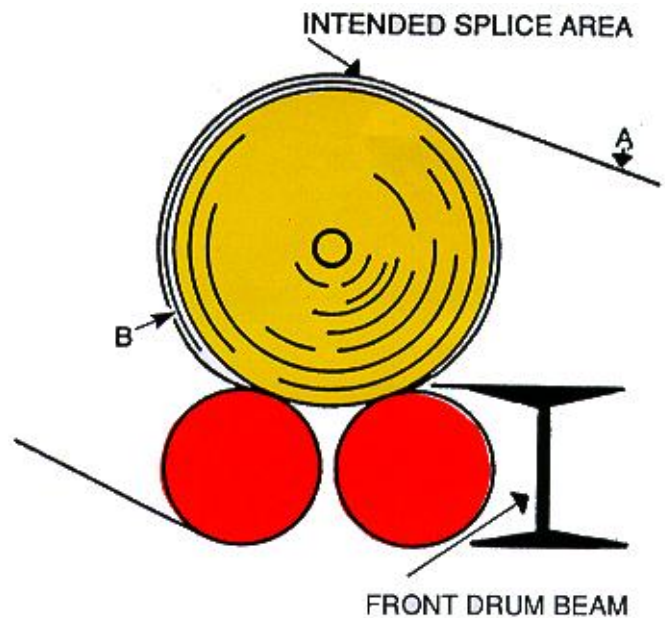

Figure 10
2. Thread the new tail "A" between Slitter Rewinder drums using a threading device. When the full sheet is through the Slitter Rewinder, engage the slitters. Continue to run the sheet through the Slitter Rewinder until the slits are past the intended splice area. Roll tail "B" should be past the back drum nip area as this will allow you to pull roll tail "B" out. Figure 10.
2. Thread the new tail "A" between Slitter Rewinder drums using a threading device. When the full sheet is through the Slitter Rewinder, engage the slitters. Continue to run the sheet through the Slitter Rewinder until the slits are past the intended splice area. Roll tail "B" should be past the back drum nip area as this will allow you to pull roll tail "B" out. Figure 10, Page 7.